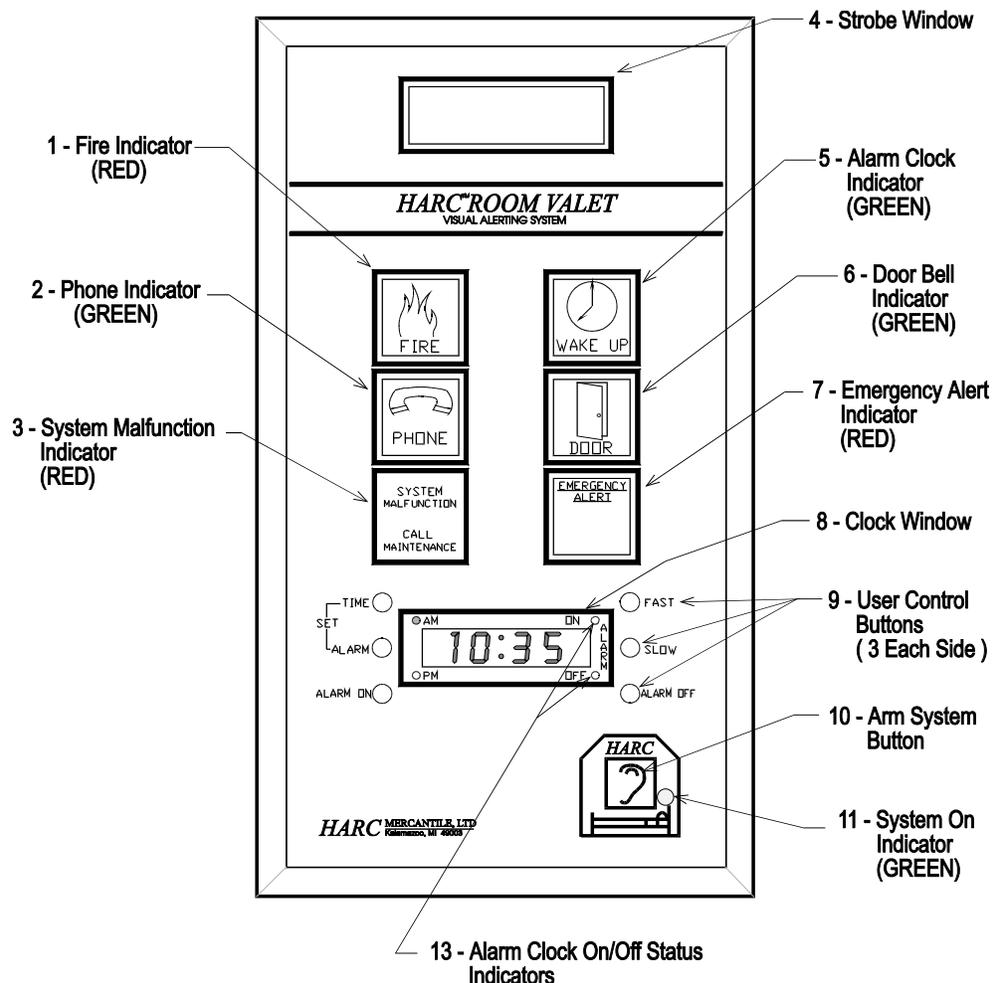

Figure 1.2 - Valet Display Panel
The Display Panel has six (6) main Icons for indicating alarms. (See figure 1.2)